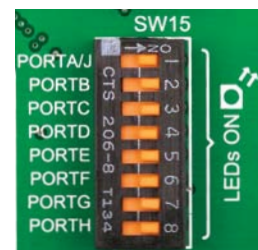

Figure 6-6: SW15.1 through SW15.8 switches are used to enable PORT LEDs
specified by the manufacturer. The current varies from 0.2mA to 20mA, depending on the type of the LED and the manufacturer. The EasyMx PRO™ v7 for Stellaris® board uses low-current LEDs with typical current consumption of 0.2mA or 0.3mA. Board contains 72 LEDs which can be used for visual indication of the logic state on PORT pins. An active LED indicates that a logic high (1) is present on the pin. In order to enable PORT LEDs, it is necessary to enable the corresponding DIP switch on **SW15** (**Figure 6-6**).